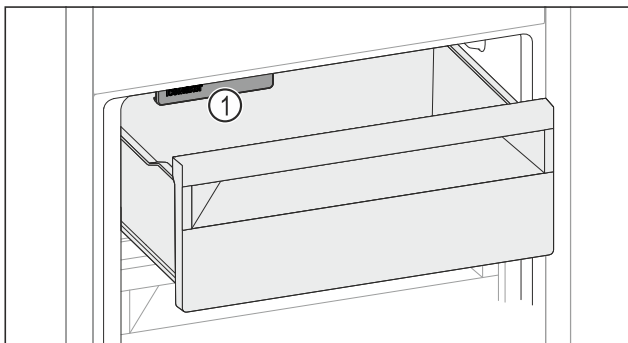

Fig. 168
- ▶ Uzmite u obzir IceMaker Fig. 168 (1).